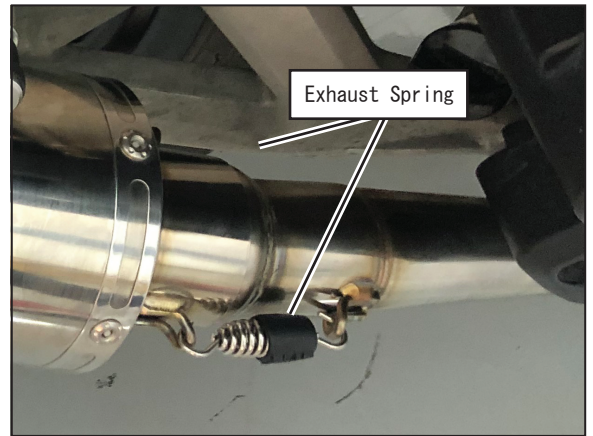

FIG. 11
10) Mount Silencer Assy on the Exhaust Pipe. Then, Install Exhaust Spring onto each spring hook on Exhaust Pipe and Silencer Assy (See Fig. 11).